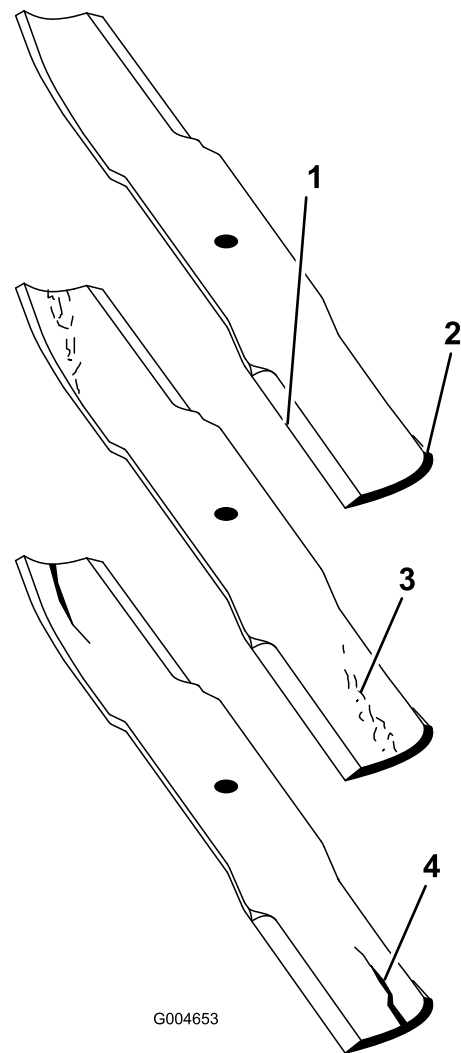

Figure 71
1. Inspect the cutting edges (Figure 71). If the edges are not sharp or have nicks, remove and sharpen the blades. Refer to Sharpening the Blades.
2. Inspect the blades, especially the curved area (Figure 71). If you notice any damage, wear, or a slot forming in this area (Figure 71), immediately install a new blade.